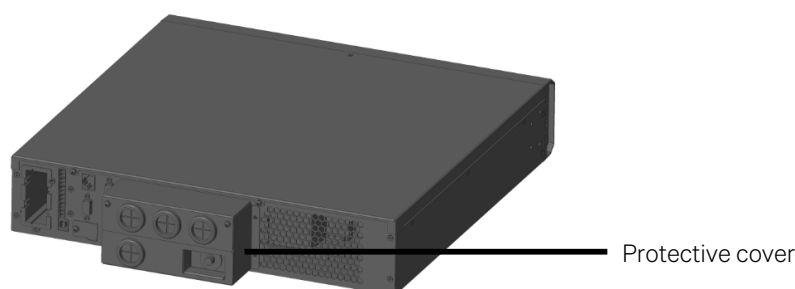

Figure 2-17 Removing protective cover
2. Remove the protective cover of the I/O terminal block as shown in Figure 2-17.